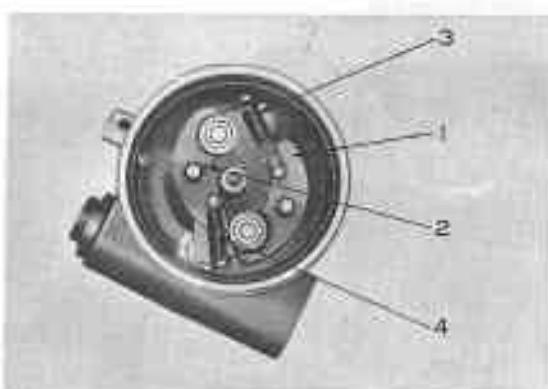

Fig. 10-18 Assembling Governor
3. Assemble the governor weights (1) and (2) and the governor springs (3) and (4). Take care on the assembling direction of the governor springs as shown in figure 10-18.